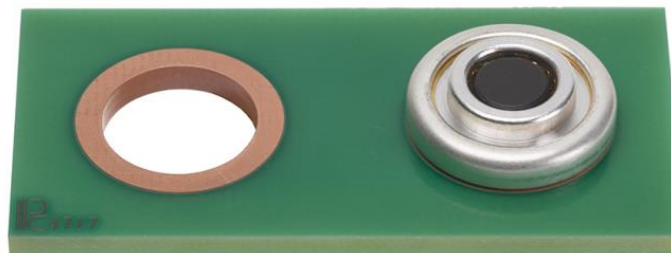

Figure 1
5. Lightly hand place CST socket into center of above verified hole making sure to not press the solder out of the way (see Figure 1 for reference)